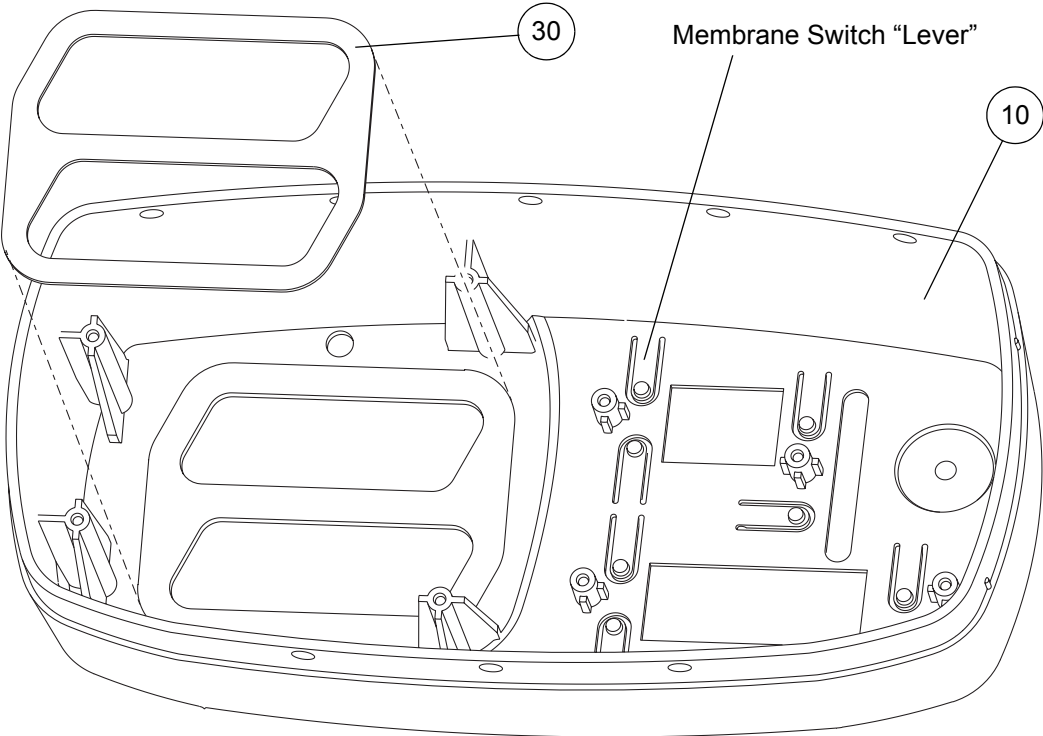

Figure 36 - Replacing the Top Case Gasket
- 30.3 Check on the inside of the new top case moulding (Fig 36, Item 10) that the 7 membrane switch “levers” are flush with the surface of the top case. If any membrane switch “levers” are raised, gently push them down so that they are now flush.
- 30.4 Stick a new display membrane label (Fig 36, Item 20) onto the outside of the top case. Make sure that the correct iconised display membrane label is fitted, as follows:
- 30.5 **Carefully** stick a new gasket (Fig 36, Item 30) onto the inside of the top case.